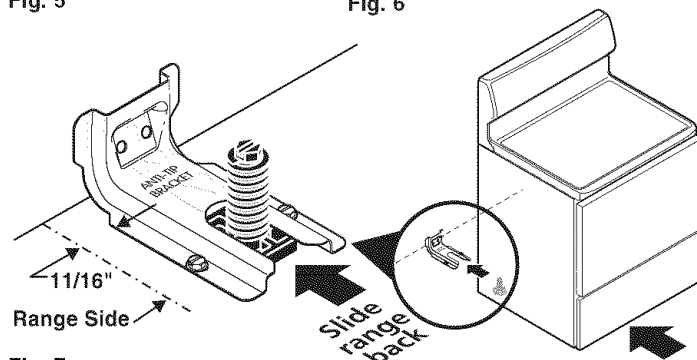

Fig. 7
1c. Level and Position Range - Level range by adjusting the (4) leveling legs with a wrench. NOTE: A minimum clearance of 1/8" is required between the bottom of the range and the leveling leg to allow room for the bracket. Use a spirit level to check your adjustments. Slide range back into position (See Fig. 7). Visually check that rear leveling leg is inserted into and fully secured by the Anti-Tip Bracket with a Warmer Drawer or broiler compartment, grasp the top rear edge of the range and carefully attempt to tilt it forward.
Carefully slide range into final position while inserting rear leveling leg into and FULLY ENGAGING THE ANTI-TIP BRACKET (See Fig. 7). Make sure the power cord folds into the remaining open floor area behind the range Warmer or storage drawer. Be sure to check the level of the range.